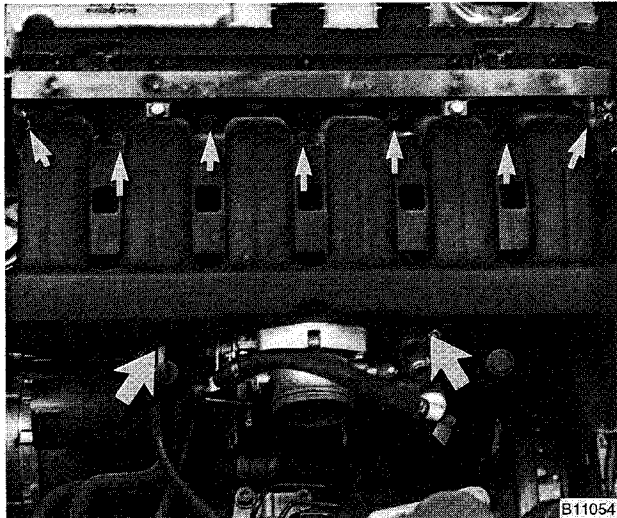

Fig. 12. Intake manifold mounting nuts on 6-cylinder engine. Also remove two bolts from support brackets (arrows).
16. Remove intake manifold from engine by removing seven mounting nuts from above and two mounting bracket bolts from below. See Fig. 12.